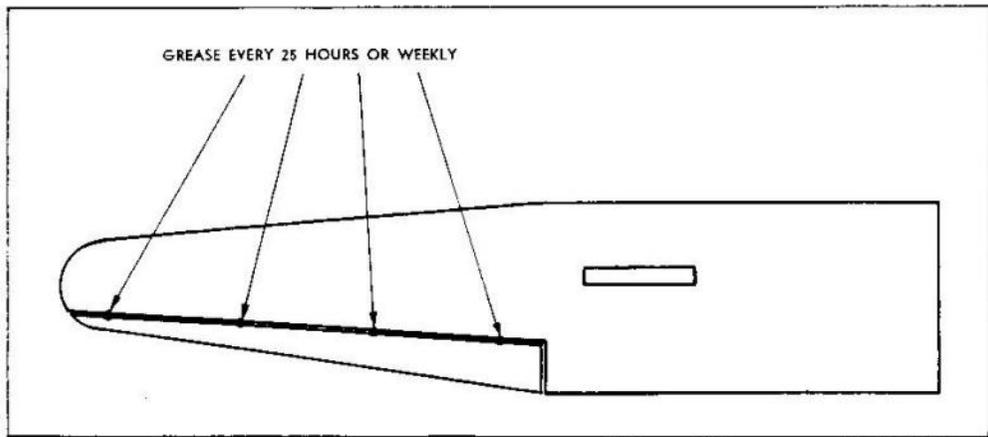

Figure 10 - Aileron Hinge Lubrication Diagram
- (1) Aileron hinges. (See figure 10.)